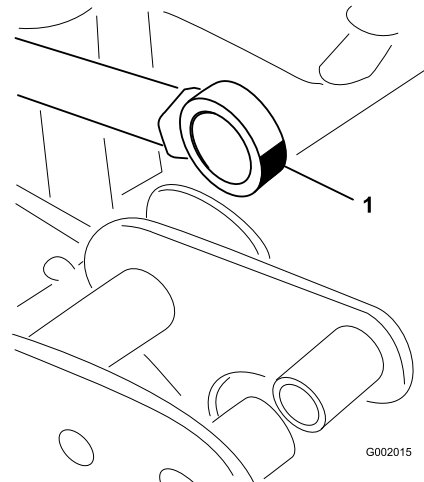

Figure 75
5. Swivel the rod-end bearing and apply grease into the bearing (Figure 75).